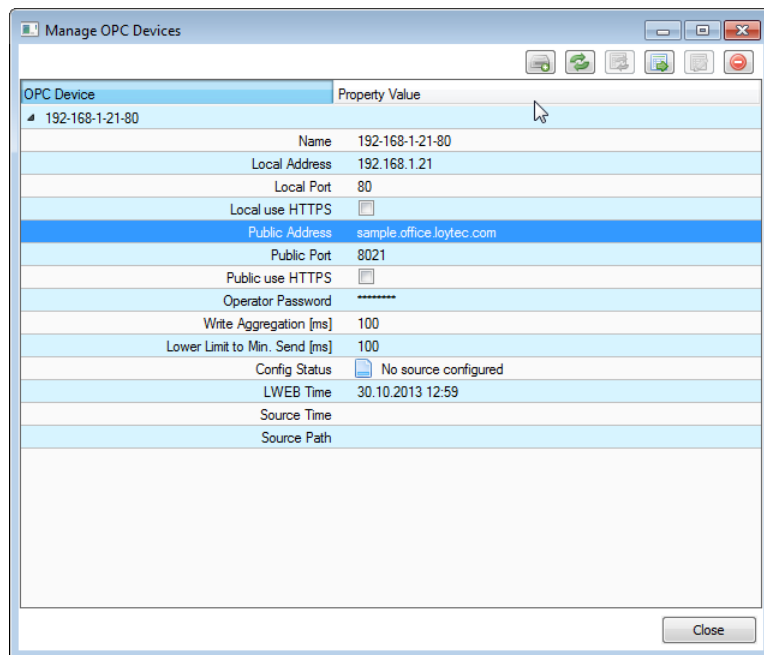

Figure 86: Manage OPC Device, Configure Public Address and Port
- 2) In the input field **Public Address**, enter the IP address or hostname of your router and in the **Public Port** enter the external port which you configured in the port forwarding (see Figure 86).